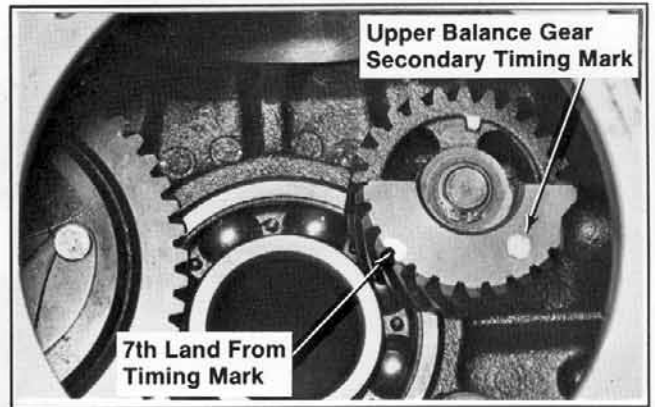

Figure 11. Marking Land On Upper Balance Gear.
- Upper Balance Gear** - Locate the secondary timing mark on balance gear. Starting with the land next to the timing mark, count **seven (7)** lands in a **clockwise** direction. Mark the seventh land. Refer to Figure 11.